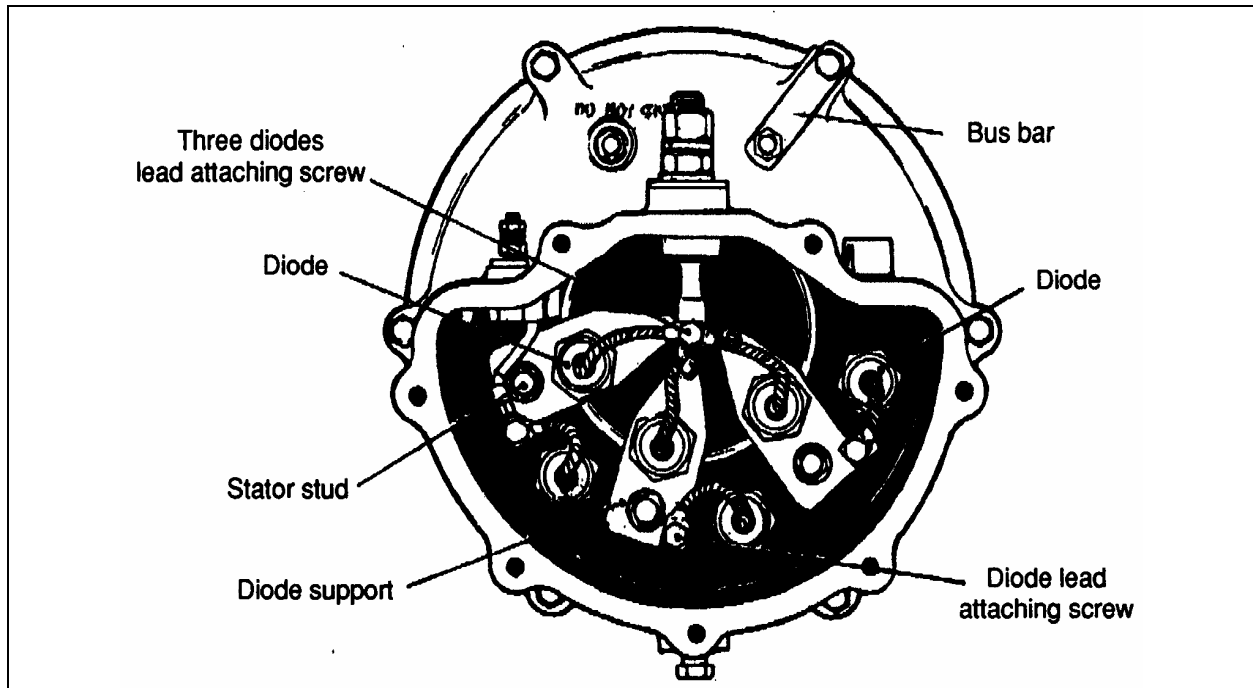

FIGURE 25: VIEW OF RECTIFIER END FRAME WITH COVER REMOVED
5. Disconnect all diode flexible leads; i.e. three from the output terminal stud and three from the diode supports. See figure 25 for more details.